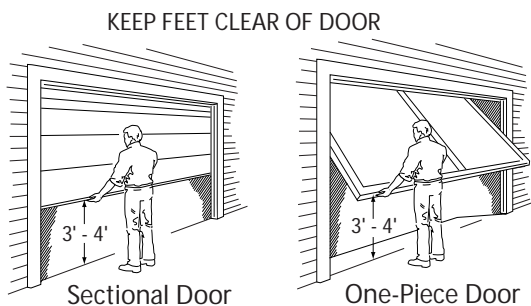

Figure 1 Checking door balance
- A** Raise door, check alignment and see if it moves freely (Figure 1). If door appears out of alignment, binds, or does not move smoothly, contact a Genie Factory Authorized Dealer or dealer of your garage door for repairs and adjustments to door mechanism.